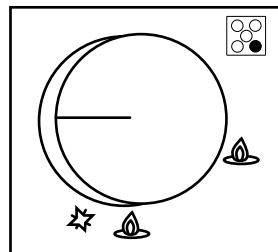

fig. 5
- Turn the knob (fig. 5) corresponding to the selected burner in a counter-clockwise direction so that the knob is at MAXIMUM (this corresponds to a large flame).
- Turn the knob (fig. 5) corresponding to the selected burner in a counter-clockwise direction so that the knob is at MAXIMUM.